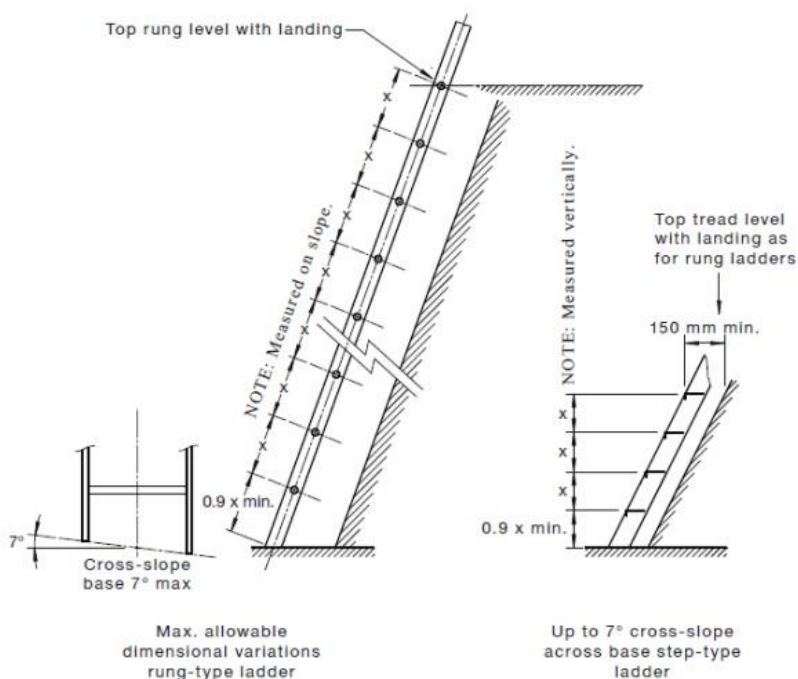

FIGURE 7.5 VARIATION OF RUNG/TREAD SPACING
The distance between the bottom rung/tread and the bottom landing shall be not less than 90% and not greater than 100% of the rung/tread spacing (see Figure 7.5).
- 1 This distance should be measured at the ladder centre-line where the landing has a cross-slope (see Figure 7.5).